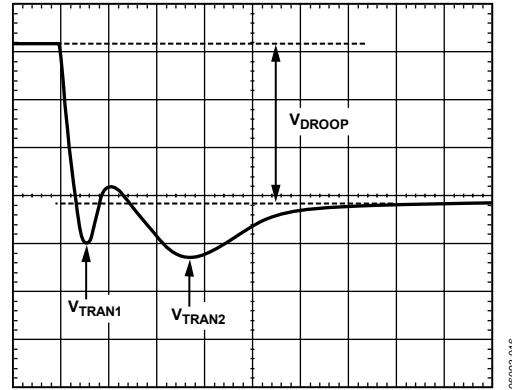

Figure 18. Transient Setting Waveform
- With the dynamic load still set at the maximum step size, expand the scope time scale to either 2 $\mu\text{s}/\text{div}$ or 5 $\mu\text{s}/\text{div}$. The waveform can have two overshoots and one minor undershoot (see Figure 18). Here, V_{DROOP} is the final desired value.